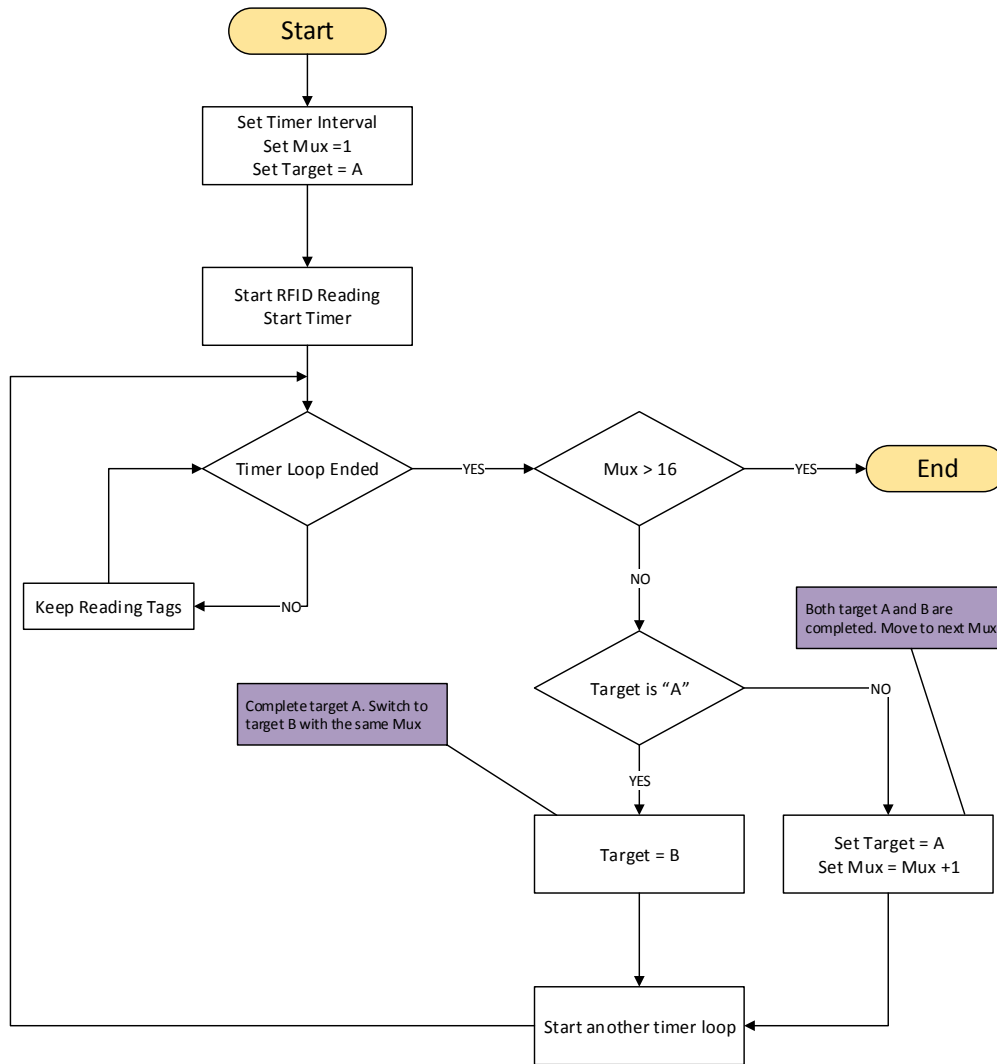

Figure 13. Flowchart of Individual Antenna Reading
- Individually radiate each antenna patch, read tags in the cabinet (Figure 13).
Test Process	The antenna is enabled one by one while reading. The detail process is presented in Figure 13 The timer interval is set as 20 seconds, which is also the reading time period